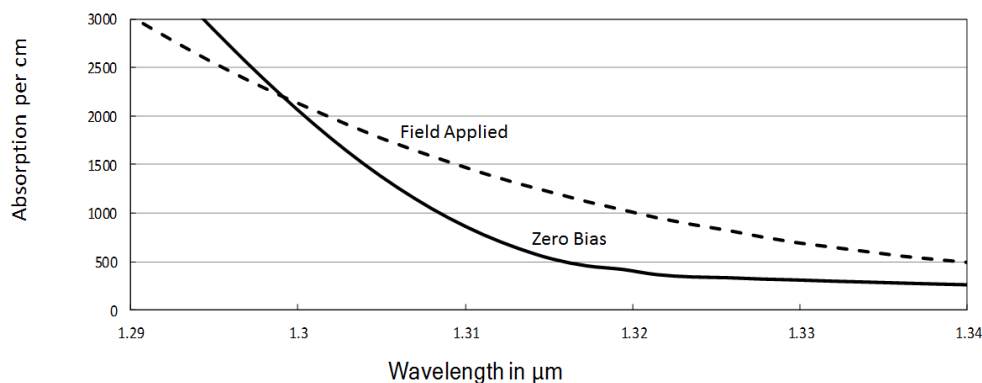

Figure 2.1
- (c) Figure 2.1 shows part of the absorption coefficient characteristics of a compound semiconductor at zero bias and subject to an applied electric field. Estimate the insertion loss of a 50 μm long electroabsorption waveguide modulator fabricated from this material operating at a wavelength of 1.32 μm .